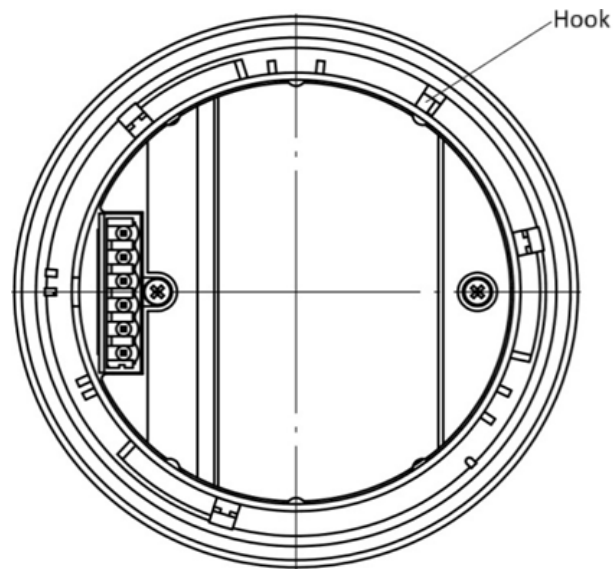

Fig. 7.1 View of the detector from below
The method of mounting and dismounting the detector is shown in Figs. 7.1 and 7.2. To disassemble the detector given steps are required:
- a) pressing the catch (Fig.7.1) and turning the guard in the basket to the right until the guard is removed;